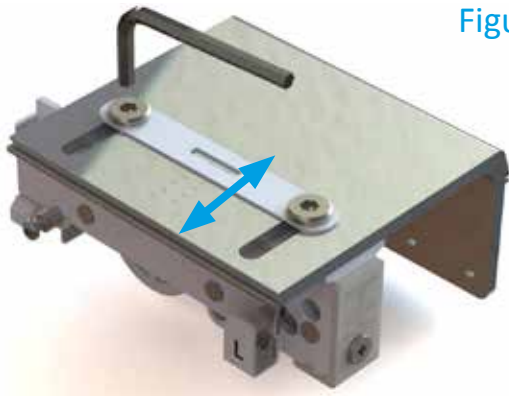

Figure 1.
1. Using the 5mm Allen Key, loosen and slide up according to the thickness of the selected door. Ensuring that it is in-line with the selected door thickness, as guided in **Figure 1**.